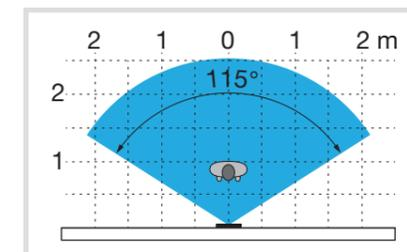

Fig. 10: Camera aperture angle horizontal
- Observe camera aperture angle (Figure 10 / 11)